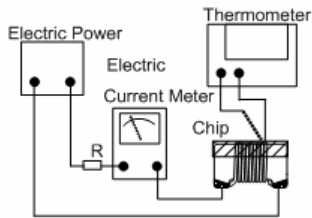

Fig. 6.3.4-1
- d. Definition of Rated Current (Irms): Irms is direct electric current as chip surface temperature rose just 15°C against chip initial surface temperature (T_a) (see **Fig. 6.3.4-2**).